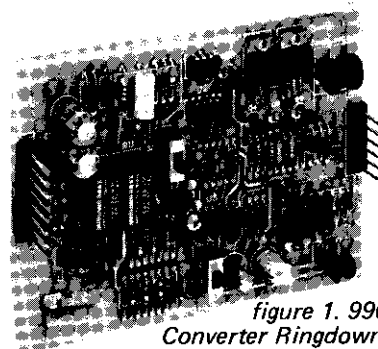

figure 1. 9961C Signaling Converter Ringdown subassembly
1.01 The 9961C Signaling Converter Ringdown subassembly (figure 1) provides conversion between E and M signaling and ac switchboard or dc manual ringdown signaling. Specifically, the 9961C converts E-lead signals to ringing signals toward the local termination (a local station or PBX) and converts ringing signals or a keyed ground input from the local station or PBX to M-lead outputs.